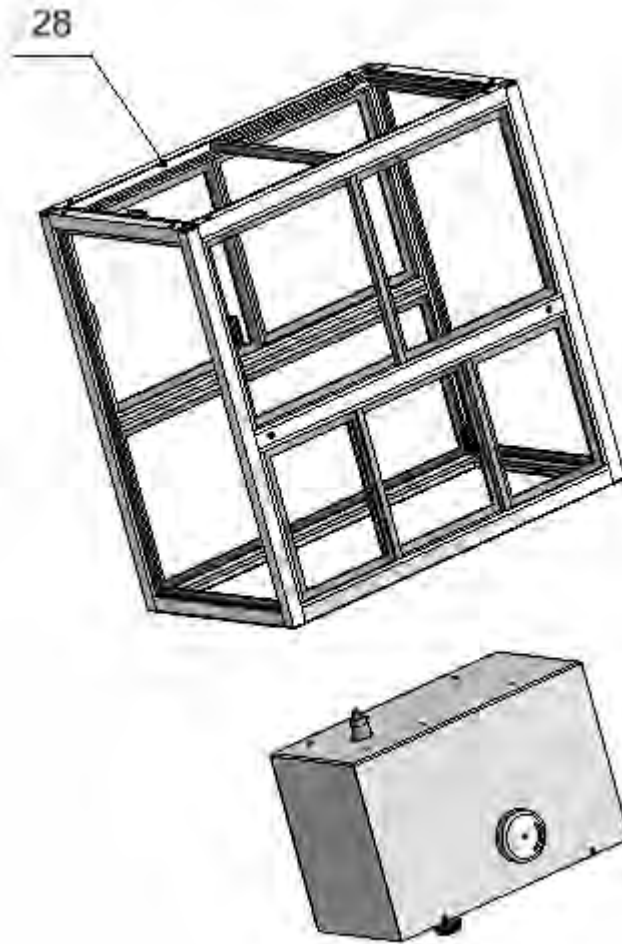

Fig. 8
* Point 25 shall be omitted for WAY 5.4Y.KO comparator assembly. Instead of a draft shield (26), anti-draft chamber (28) shall be used. (Fig.8)